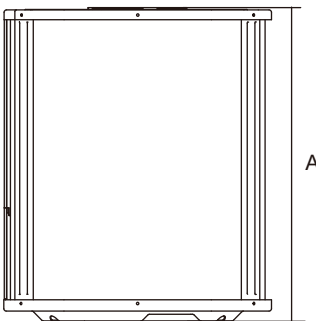

Fig.5-5
- The minimum distance between the outdoor unit and obstacles described in the installation chart does not mean that the same is applicable to the situation of an airtight room. Leave open two of the three directions (M,N,P) (Refer to **Fig.5-5**)